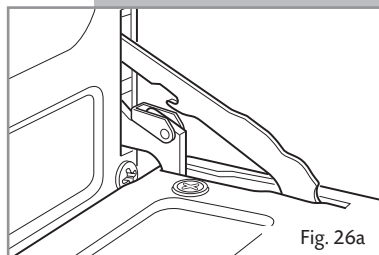
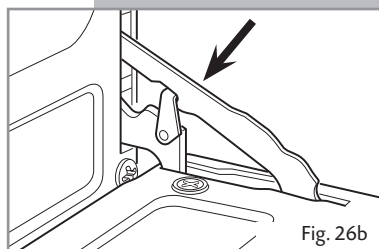

Fig. 26a
Fig. 26b
- The swivel retainers of the rh and lh hinges (fig. 26a) are hooked onto the metal bar above them (fig. 26b).
- Open the door to the full extent (fig. 26a).
- Attach the swivel retainers of the rh and lh hinges onto the metal bar above them (fig. 26b).
- Unlock the oven door by opening it completely and detaching the swivel retainers of the lh and rh hinges from the metal bar above them (fig. 26a).